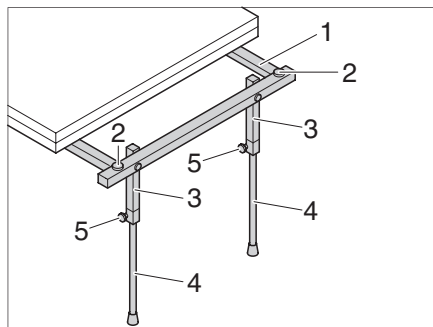

Fig. 71 Move legs into vertical position
- ▶ If necessary, extend the telescopic supports (Fig. 71,3 and 4) to stabilise the tabletop.